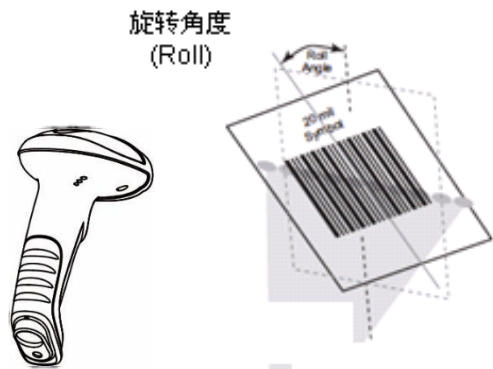

Fig. 1-13
- ◇ Roll :  $\pm 30^\circ$ ,  $0^\circ$  Pitch and  $0^\circ$  Skew (Fig. 1-13)